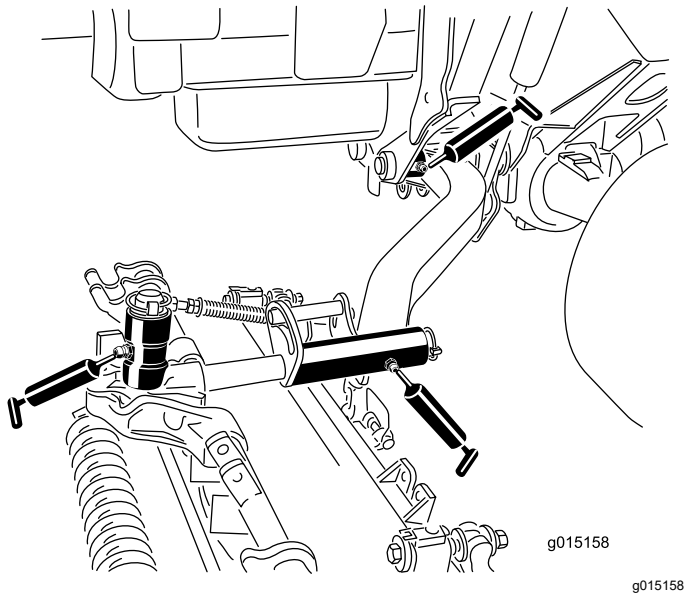

Figure 116
- Lift arm pivot bushings (1 per cutting unit), refer to Figure 116
- Cutting unit carrier frame (2 per cutting unit), refer to Figure 116
- Cutting unit lift arm pivot (1 per cutting unit), refer to Figure 116